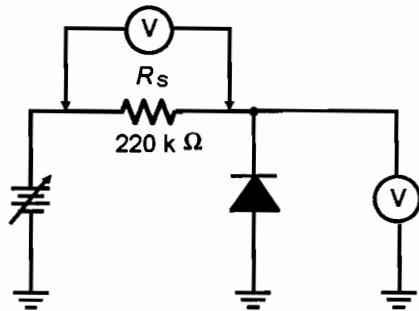

Figure 5.3
- Construct the circuit of Figure 5.3. Starting with the power supply set to zero volts, slowly increase the supply while reading the diode reverse voltage. At each diode reverse voltage step of Table 5.2, measure the voltage drop across  $R_S$  ( $220\text{ k}\Omega$ ) and calculate the current to record in Table 5.2.